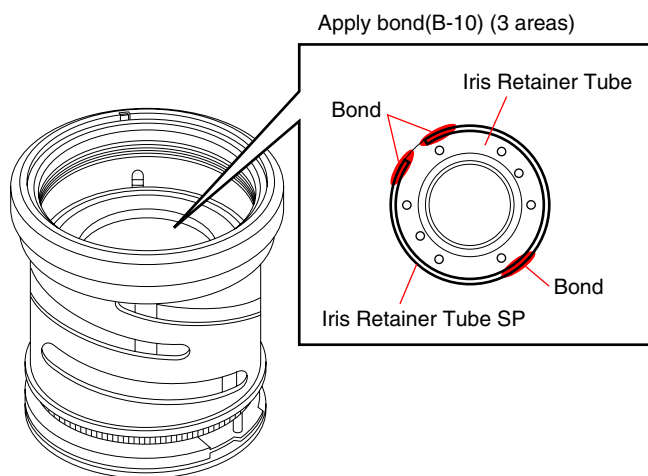

Fig.4-2-9
- 3) After adjustment, apply the adhesive bond (B-10) to portions shown in Fig.4-2-9.